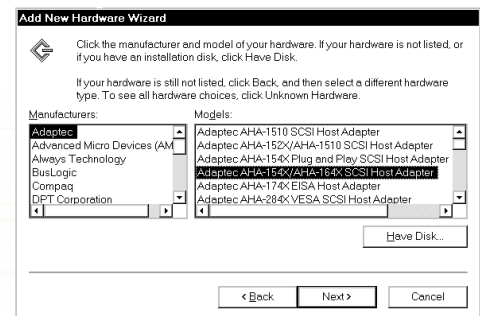

Figure 5. Select AHA-154X Card
7. Select Adaptec AHA-154X/AHA-164X SCSI Host Adapter, not the Plug and Play version above it. (Figure 5)